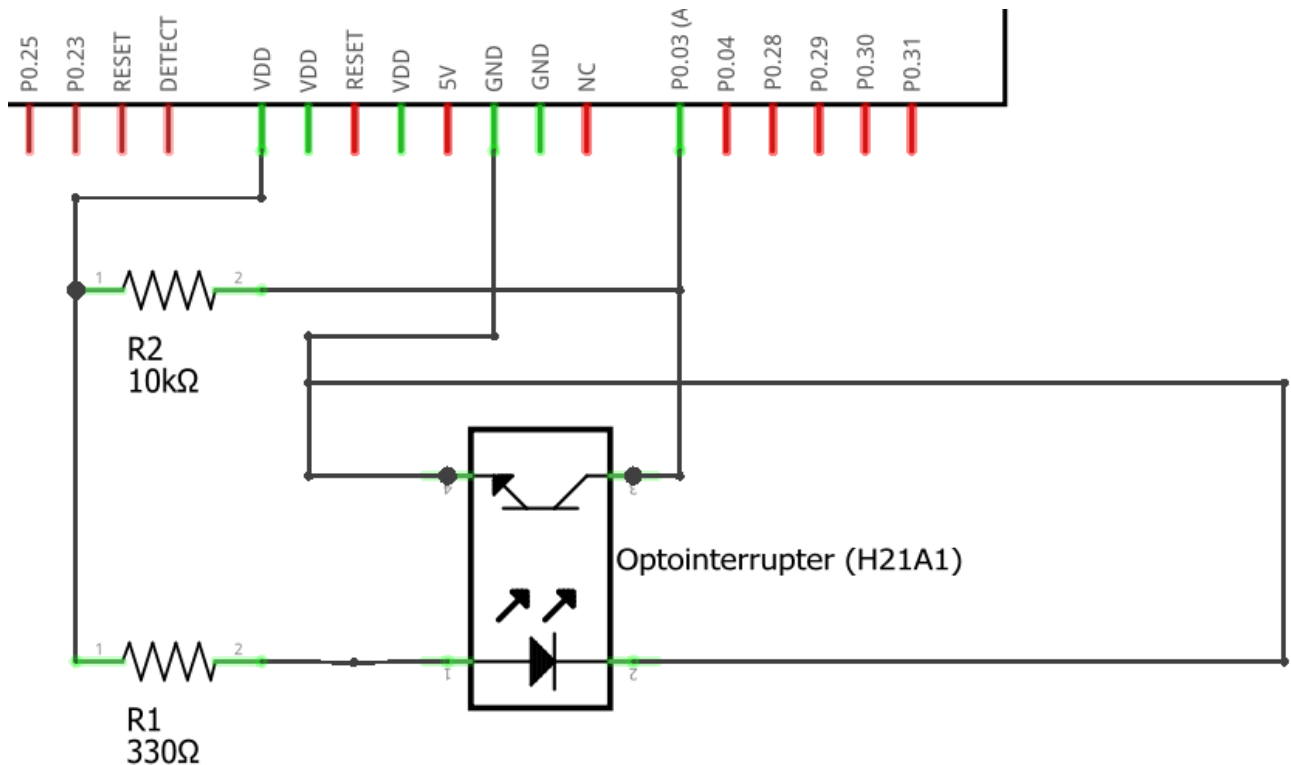
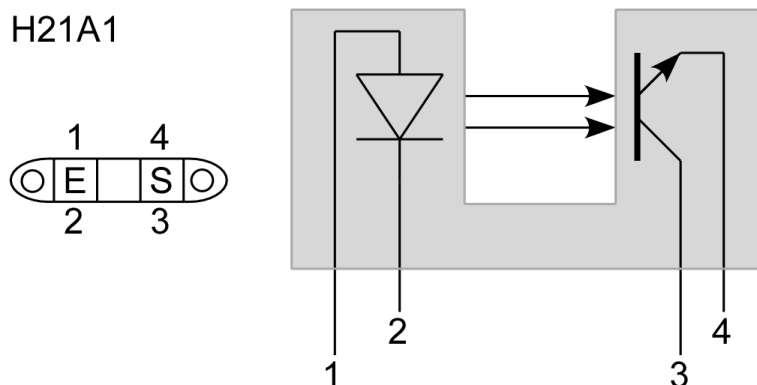

Figure 6. Diagram for the photointerrupter circuit.
Figure 7. Pinout diagram for the photointerrupter.
1. Build the circuit according to the diagram in Figure 6 and with the help of the pinout in Figure 7.